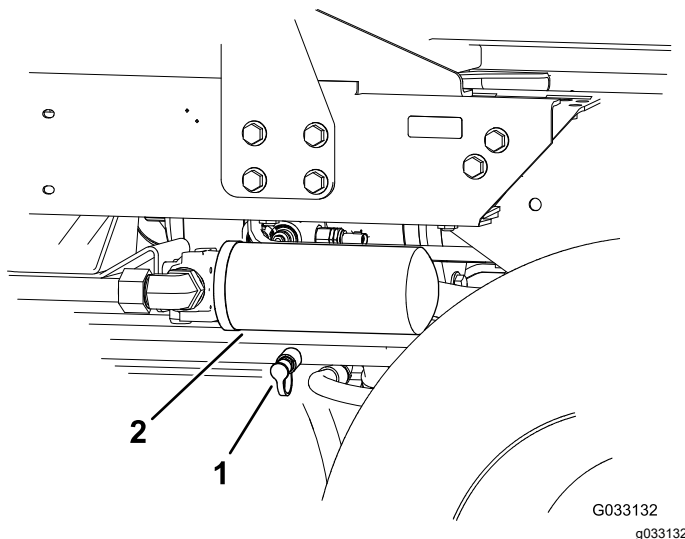

Figure 43
- Connect a hydraulic hose between the diagnostic fitting installed in the rear traction manifold and the reverse traction pressure test port (Figure 43).